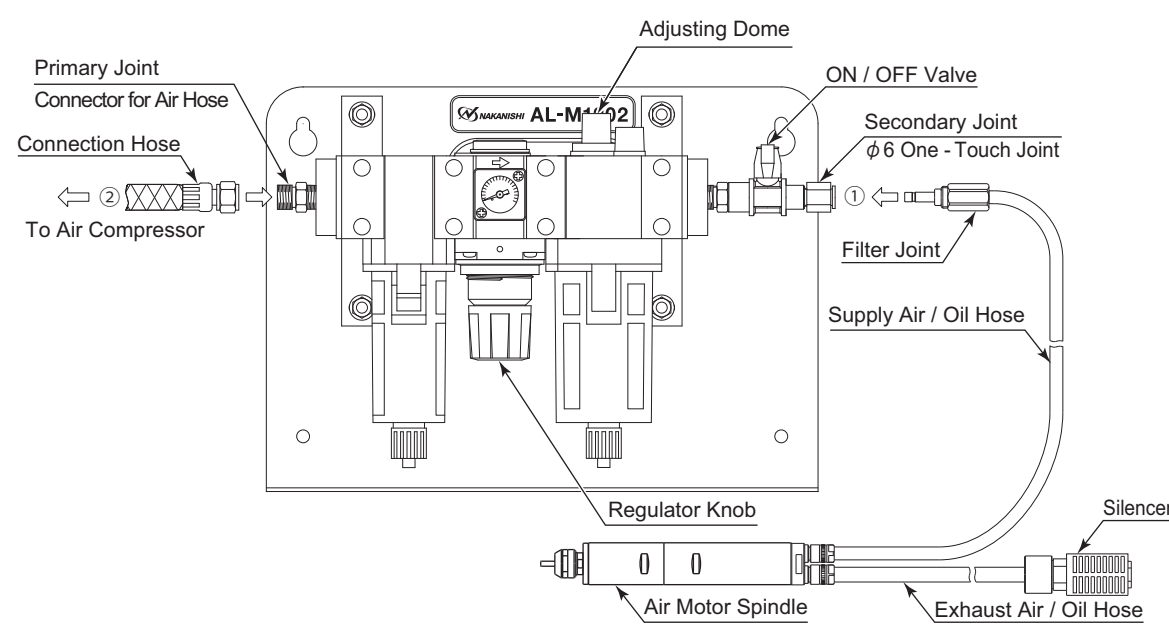

Fig. 20 Connection of Air Line Kit " AL - M1202 (Sold Separately) "
- Connect the Filter Joint of the supply air / oil hose to the Secondary Joint (φ6 One - Touch Joint) of the Air Line Kit (Fig. 20 ①).
- Connect the connection hose (Air Line Kit's Standard Accessories) to the Primary Joint of the Air Line Kit and Compressor (Fig. 20 ②).